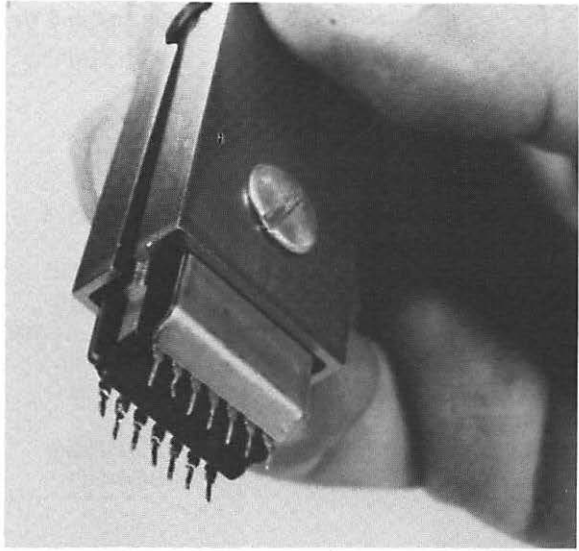

FIG. I-7 A typical IC tool.
5. IC tool—Some of the ICs (integrated circuits) on some boards in your computer or its peripherals are plugged into sockets. Replacement of these is a simple job, but a risky one if you try to do it with your fingers alone. The many prongs (pins) of the IC are easily damaged. An extractor (Fig. i-7) is used to remove the chip from its socket safely.